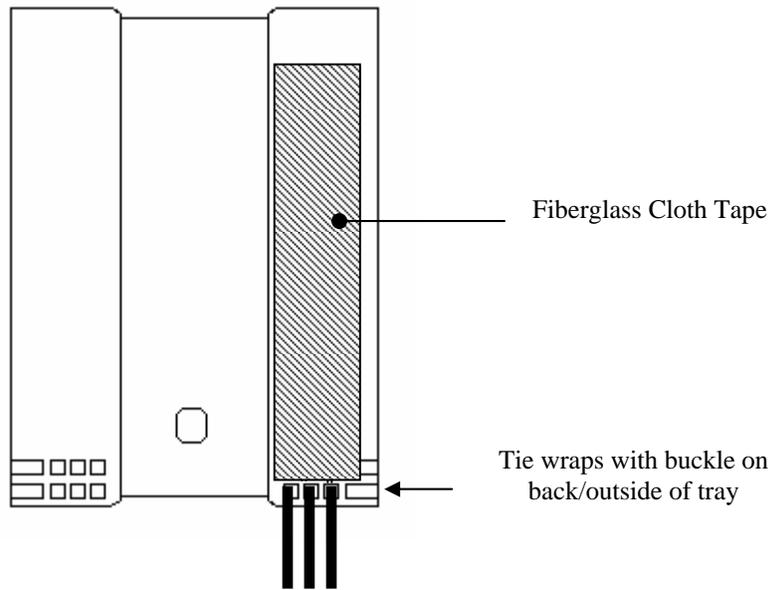

Figure 14- Taping Kevlar Down on Back of Splice Tray
Step 21 - Once all the groups of Kevlar for set “A” have been taped down in place, cover the exposed Kevlar with a one and quarter inch wide section of Fiberglass Cloth tape to secure all the Kevlar strands to the back/outside of the splice tray (See Figure 14 below for completed set “A” fibers).